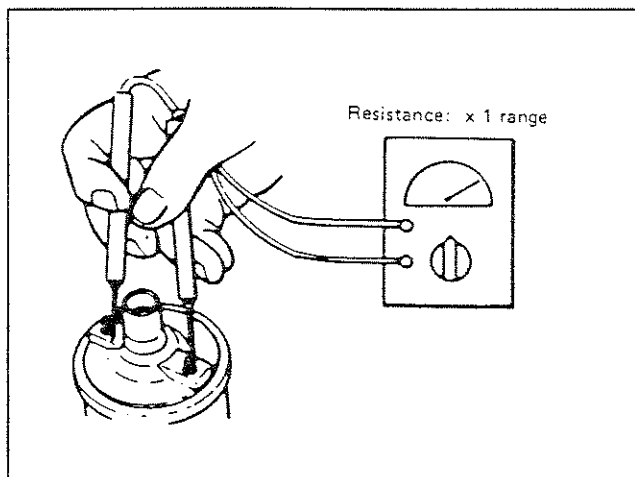

Figure 10. Testing Primary Winding Resistance
1. To test the coil primary winding, connect the test probes of an ohmmeter (or VOM) across the positive (+) and negative (-) terminals of the coil and read the resistance. See Figure 10.